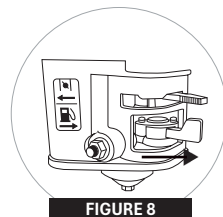

FIGURE 8
- PLACE THE FUEL COCK IN THE OPEN POSITION;(FIGURE 8)